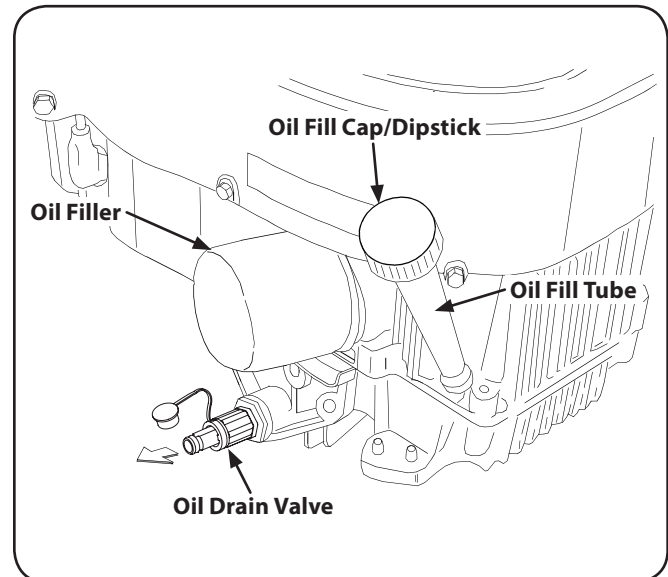

Figure 6-1
3. If your engine has the oil drain valve setup shown in Fig. 6-1, see the Oil Drain Valve section on page 20.
1. Pop open the protective cap on the end of the oil drain valve to expose the drain port. Refer to Fig. 6-1. Remove the oil fill cap/dipstick from the oil fill tube.